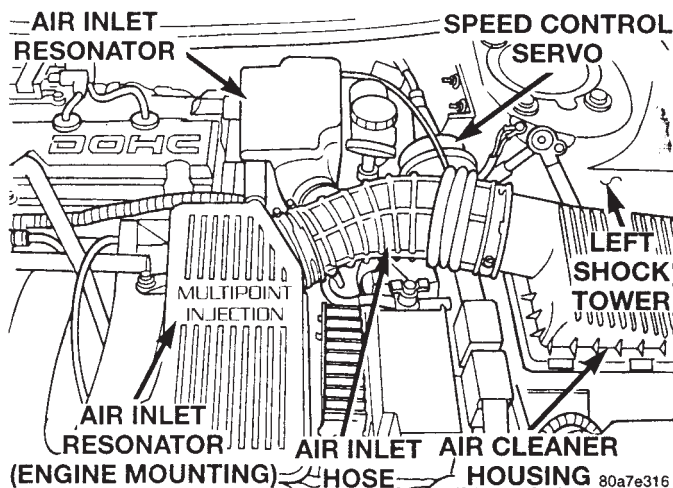

**Fig. 92 Air Inlet Resonator And Tube**
(5) Remove the air inlet resonator and air inlet hose (Fig. 92) as an assembly, from the engine mounted air inlet resonator and air cleaner housing (Fig. 92).
(13) Install the air inlet resonator and air inlet tube (Fig. 92) on the air cleaner housing and the throttle body.
(14) Check brake light switch for correct adjustment. If required, adjust stop lamp switch as necessary. See required procedure in the Service Adjustments Section in this group of the service manual.
(15) Road test vehicle to ensure proper operation of the vehicles brake system.